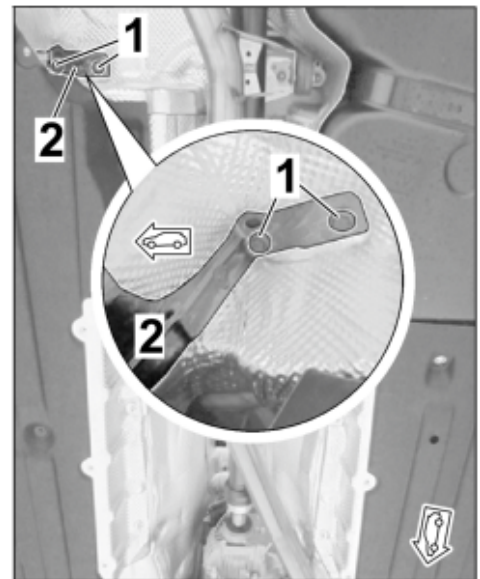

Figure 6
- 1.3.2 Remove hexagon flange bolt, M8 x 25 (2 x) on the heat shield holder. ⇒ *Figure 6*